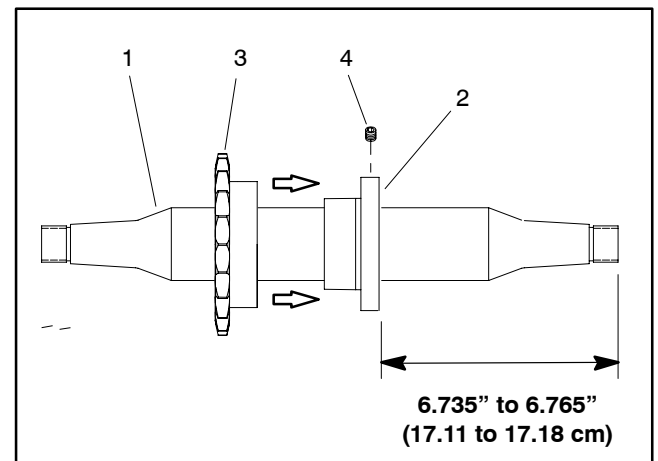

Figure 12
- A. Slide taper lock bushing onto axle. Position flange of bushing from 6.735" to 6.765" (17.11 to 17.18 cm) from end of shaft (Fig. 12).
- C. Slide sprocket onto bushing. Install three (3) cap screws and lock washers to secure sprocket to bushing.
4. Slide bearing assemblies to axle and cradle. Secure bearings to cradle with four (4) cap screws, lock washers and flat washers. Do not secure bearing locking collars to axle at this time.